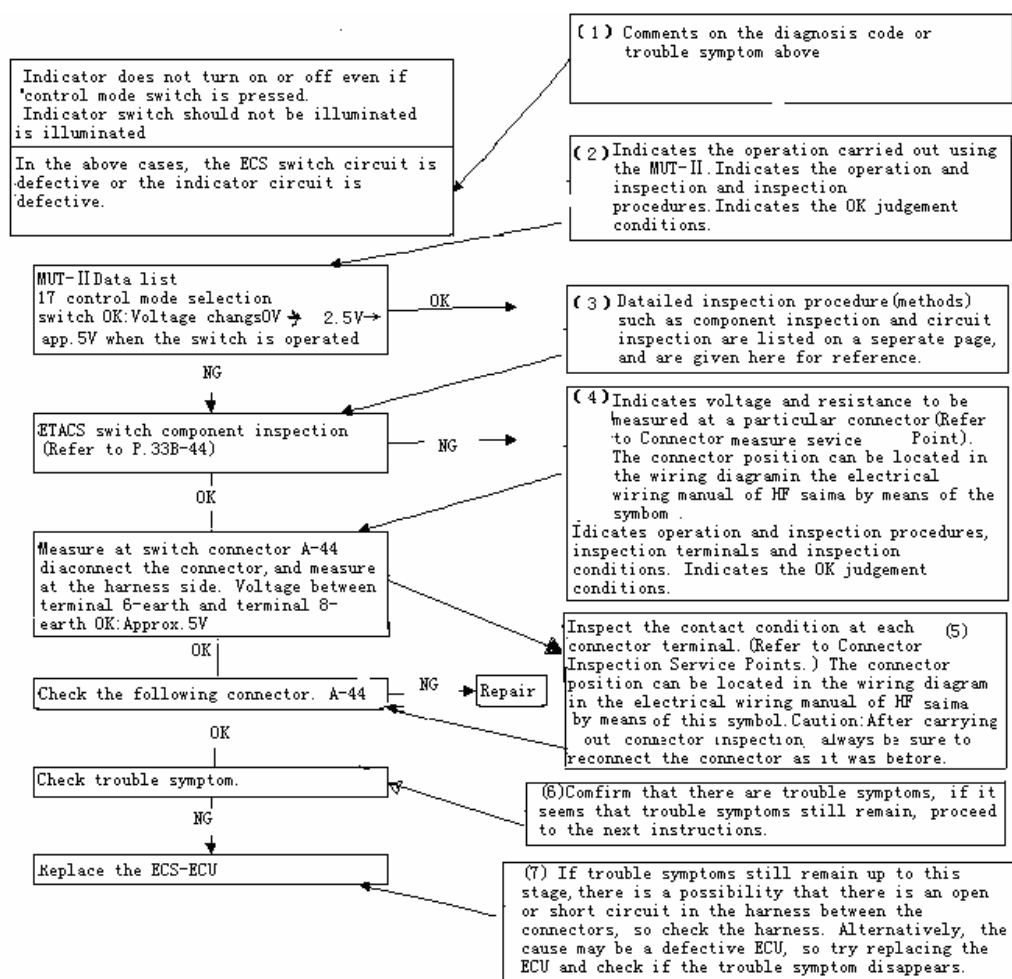

Fig. 20-8
3. INSPECTION PROCEDURES AND STEPS (see fig.20-8)